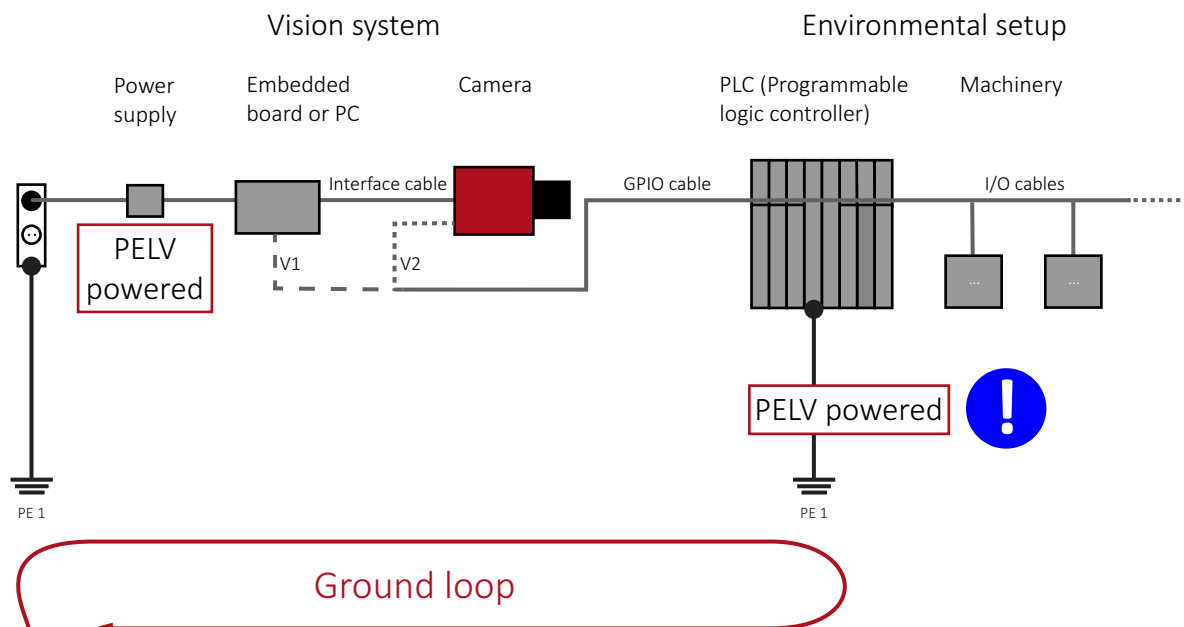

Figure 2: Ground loop when using GPIOs
- Avoid setups causing ground loops as shown in Figure 2.
In Figure 2, a camera uses non-isolated GPIOs, while PELV-powered devices are part of the environmental setup. In this case, avoid ground loops with a barrier isolator. See Setup to avoid ground loops on page 5.
Ground loops can damage cameras and connected devices or cause malfunctions. For example, use a barrier isolator, as shown in Figure 2.